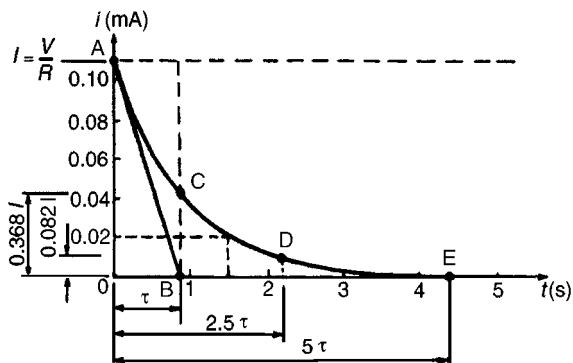

Figure 18.6
- (c) The current/time characteristic is constructed in the same way as the capacitor voltage/time characteristic, shown in part (a), and is as shown in Fig. 18.6 The values are: